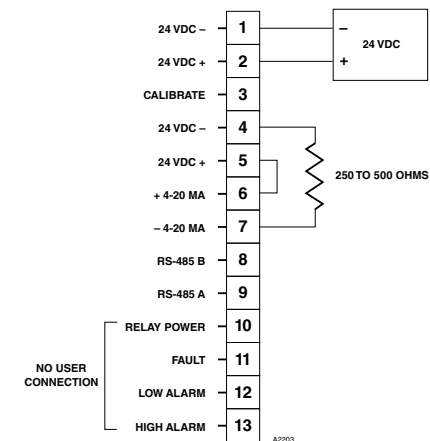

Figure 15—Wiring the Model PIRECL for Benchtop Testing/Programming Using HART Protocol
Figure 15 shows the Eclipse wired for benchtop testing/programming using HART protocol.
*All Eclipse gas detectors (except EQP models) are furnished with HART capability. However, a 250 ohm resistor must be present within the 4-20 mA loop for HART communication to work. In many cases, this resistor is already present in the control panel. For a bench test or a situation where the 4-20 mA loop is not active, this resistor must still be installed for HART communication to function properly (see Figure 15).*